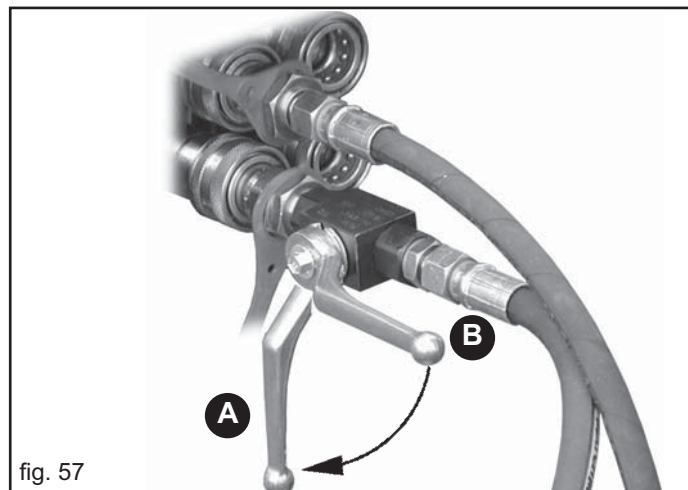

fig. 57
The hydraulic delivery hose that controls movement of the carriage is provided with a valve (Fig. 57) which prevents accidental carriage engagement.
After preparing the equipment for road transport, close the hydraulic system of the carriage by turning the handle as shown in detail A, Fig. 57.
Remove the safety pins and lift the planting unit so that it completely clears the ground before handling the side frames (1-Fig. 61, 2-Fig.62). Open the hydraulic system of the carriage (B, Fig. 57).
**After preparing the equipment for road transport, close the hydraulic system of the carriage by turning the handle as shown in detail A, Fig. 57.**